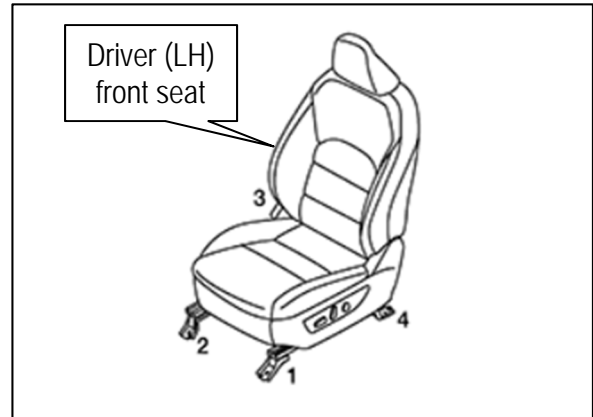

Figure 18
HINT: When installing the driver (LH) front seat, tighten the bolts to specification in the order shown in Figure 18.